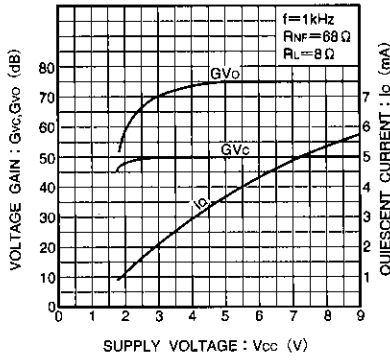

Fig. 1 Quiescent current and voltage gain vs. supply voltage
- 2) Good low voltage characteristics. Begins operating at less than 2V (see Fig. 1).